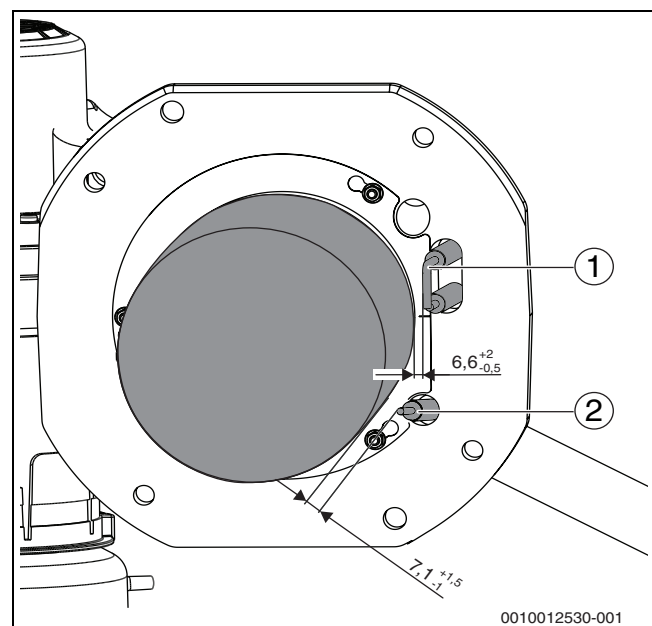

Fig. 56 Electrode position (dimension in mm)
- ▶ Check the gaps between the electrodes and compare them with those shown in Fig. 56.